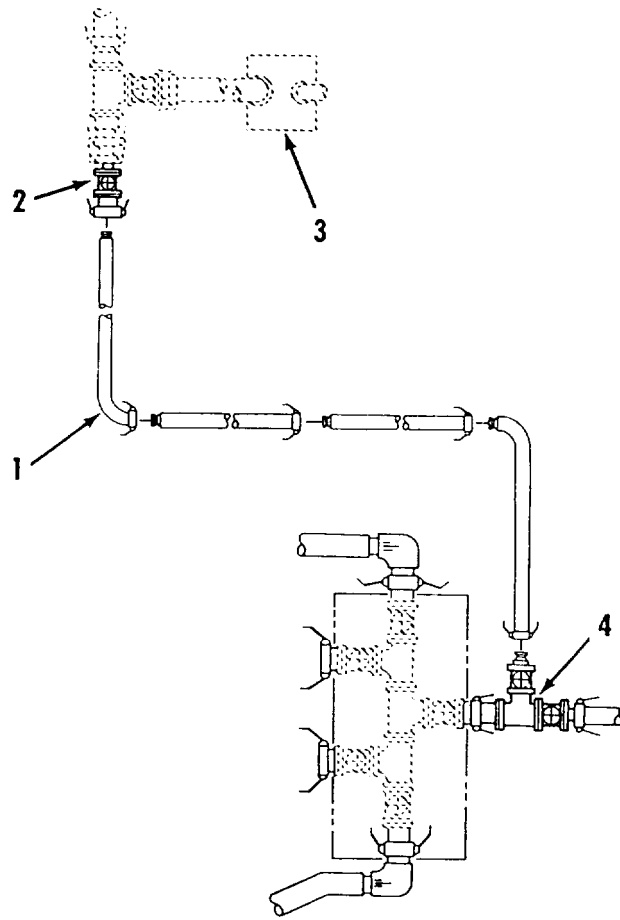

Figure 2-24. Fuel System - Fuel Tank, Secondary 600 GPM Pump and 200 GPM Filter-Separator Bypass Hoses.
- p. Fuel System - Fuel Tank, Secondary 600 GPM Pump and Filter-Separator Bypass Hoses. Refer to figure 2-24.